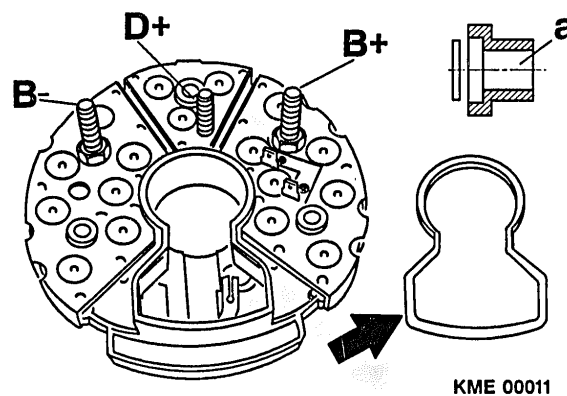

Figure 32 Rectifier Insulators and Seal
1. Place flat washer and insulator (a) onto terminal B+ and D+ studs of the rectifier assembly. (Figure 32)
2. Coat the keyhole shaped surface of the rectifier with adhesive. (Figure 32)